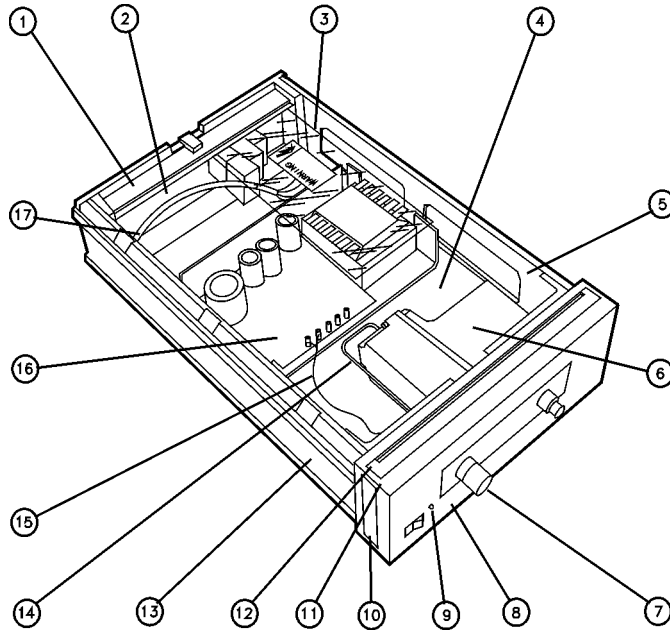
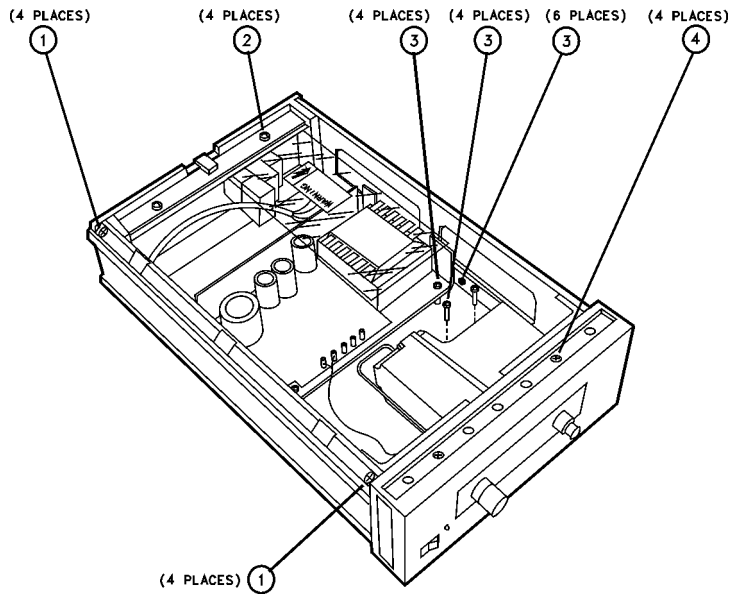
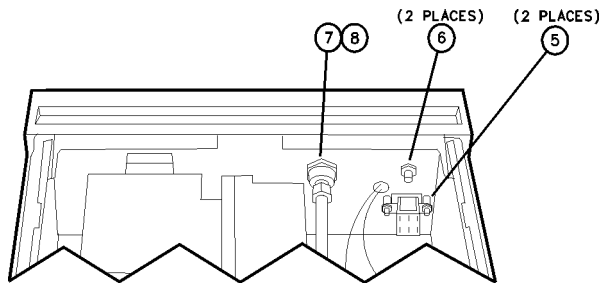

Figure 4-4. Agilent 11982A Assembly Level Replaceable Parts
Figure 4-5. Agilent 11982A Replaceable Hardware
Figure 4-6. Back of Front Frame
- 1 Item number of callout in Figure 4-4 on page 4-18, Figure 4-5 on page 4-20, or Figure 4-6 on page 4-20.
- 3 Part number check digit (CD).